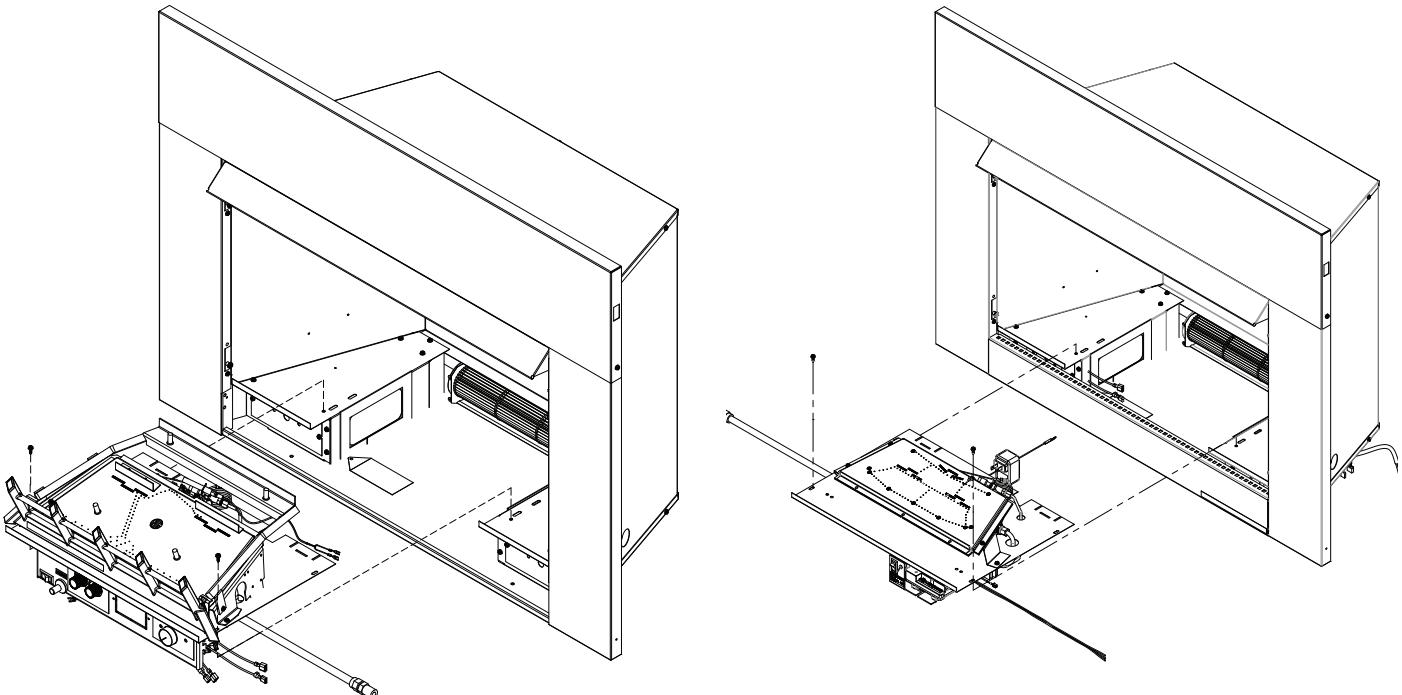

Figure 13. Remove Grate and Base Assembly (VFI33L models)
1. To remove the grate and base assembly, take out two screws as shown in Figure 13. and Figure 14.